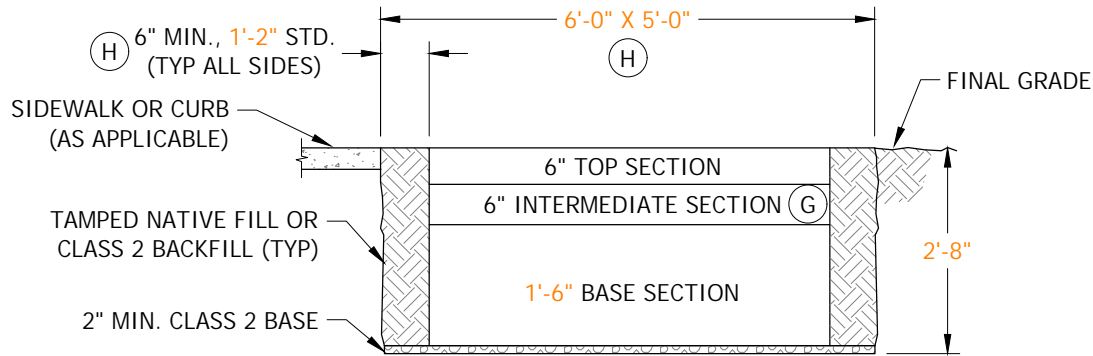

FIGURE 5
- B. AFTER THE LOCATION IS ESTABLISHED, MARK OUT DIMENSIONS FOR THE EXCAVATION WIDTH, LENGTH AND DEPTH PER FIGURES 5 & 6. THE WIDTH AND LENGTH DIMENSIONS GIVEN ALLOW EXTRA SPACE FOR SETTING THE SUBSTRUCTURE AND TAMPING THE BACKFILL.